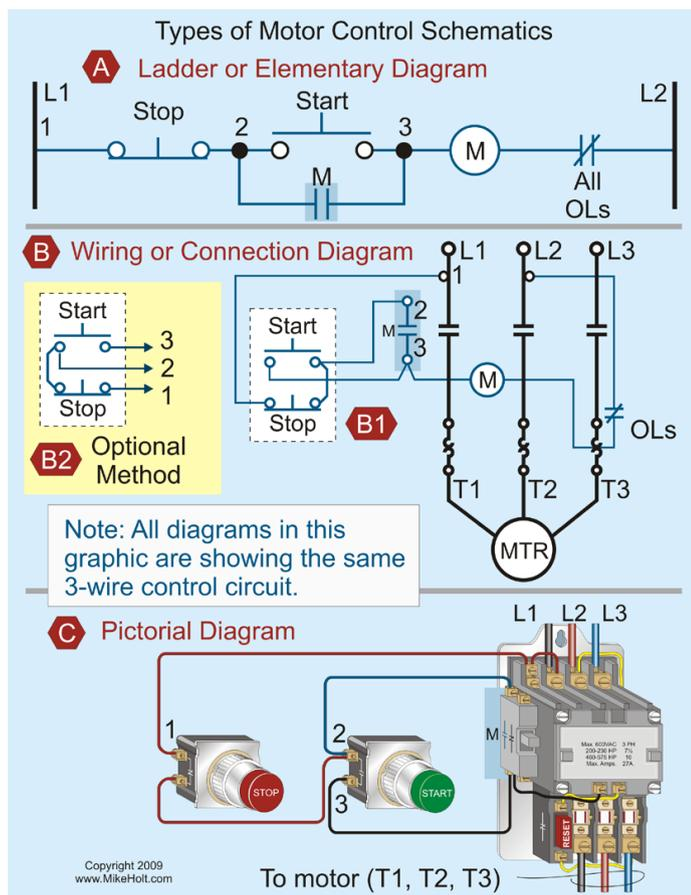

Figure 1–3
In many cases, the symbols and words have a similarity to the items they represent. The basic types of schematics are shown in **Figure 1–3**. Parts A, B, and C of that figure illustrate three different methods of representing the same control circuit.
### (1) Ladder Diagrams (Figure 1–4)